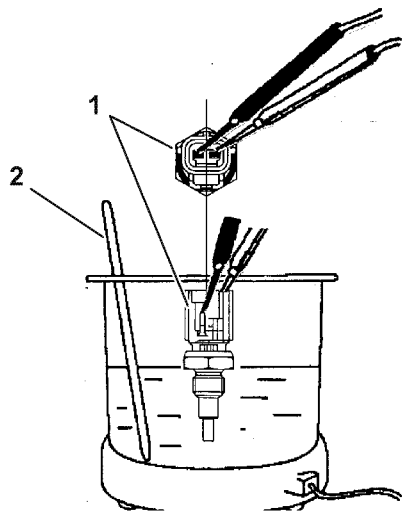

Figure 8-10
1. Inspect the water temperature sensor to make sure that it is properly operating. As shown in the following figure, connect an electric resistor to the coupler of the water temperature sensor (1, **Figure 8-10**).
2. Dip the water temperature sensor and an accurate thermometer (2, **Figure 8-10**) into the cooling water.